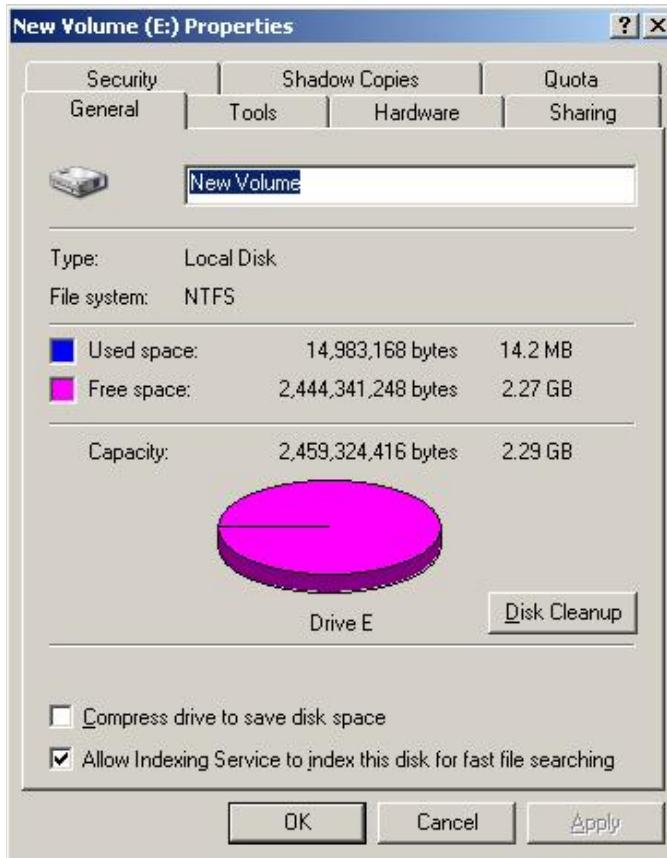

Figure 3.15 Verifying New Device Properties
3. On the Properties panel (see Figure 3.15), verify that the properties are correct: label (optional), type, capacity, and file system.